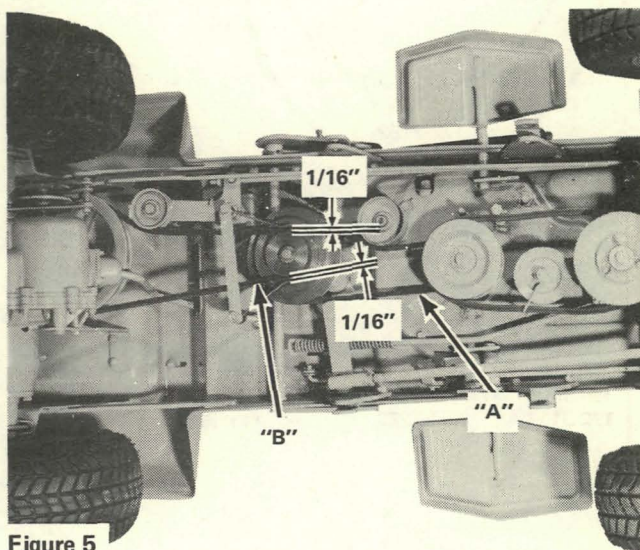

Figure 5
12. Install drive belt "A", Figure 5. Reinstall P.T.O. belt.
13. Install drive belt "B", Figure 5.
15. With clutch idler engaged adjust the two #172-2988 belt guides as shown in Figure 5.
The top groove in the engine and intermediate pulley is for the low speed range. The groove second from the top is for the high speed range. To change speed ranges remove spark plug and hold engine drive belt idler in disengaged position. A long 9/16 inch box end wrench placed over head of capscrew in idler pulley, parallel to the idler arm, will give extra leverage to disengage idler. Move engine drive belt "A", Figure 5, into speed range desired; release idler and reinstall spark plug.